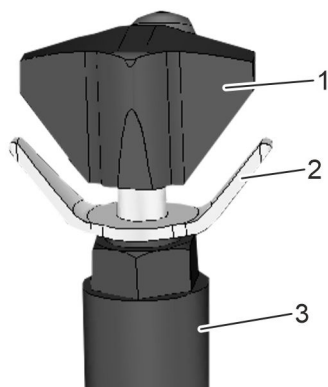

Fig. 24: Pressure adjustment valve
2. ➤ Release the adjustment lock (Fig. 24/2). To do so, turn it anti-clockwise.
3. ➤ Turn the knob (Fig. 24/1) anti-clockwise. Open completely.
Set the pressure during the forward stroke. To do so, press and hold the white button and slowly turn the knob (Fig. 24/1) clockwise. Note the pressure display.